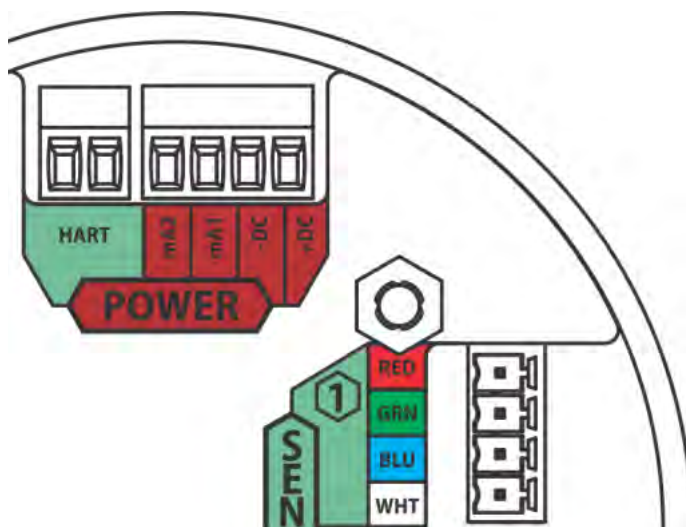

Fig. 30 Power, HART, and Sensor Inputs
- (1) Remove the ULTIMA X5000 cover by turning counter-clockwise.
- (2) Pull on the metal bail, removing electronics, to expose sensor and power connections.
- (3) Remove the red colored power connector.
- (4) Use a small, flat head screw driver to open wire entries on the connector.
- (5) Strip cable jacket to expose shield and the four individual wires.
- (6) Connect the power and analog output wires. Wire locations are marked on the cover plate (see Fig. 30):